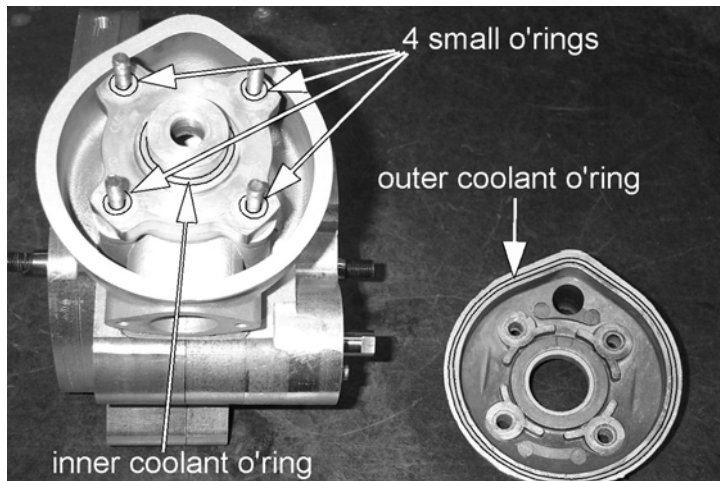

Figure 31
27. Install O'rings as shown in figure 31.